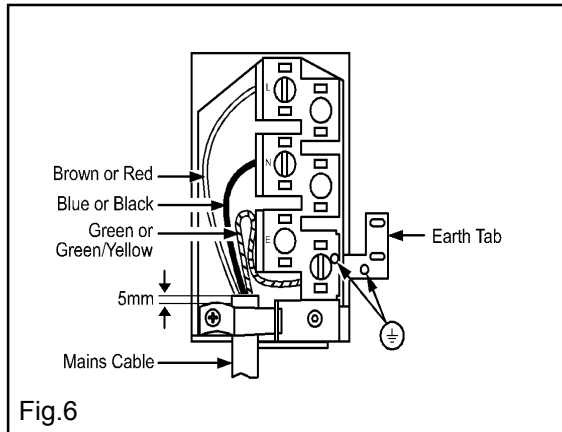

Fig.6
- **Do not** remove the screws from the earth tab extending from the oven mains terminal block (Fig. 6).
- Make connection as shown in Fig. 6 by proceeding as follows:-
- Clamp the mains cable securely ensuring 5mm of the outer insulation is inside the terminal block and that the wires are not taugth but not so slack as to cause any fouling. See Fig.6.